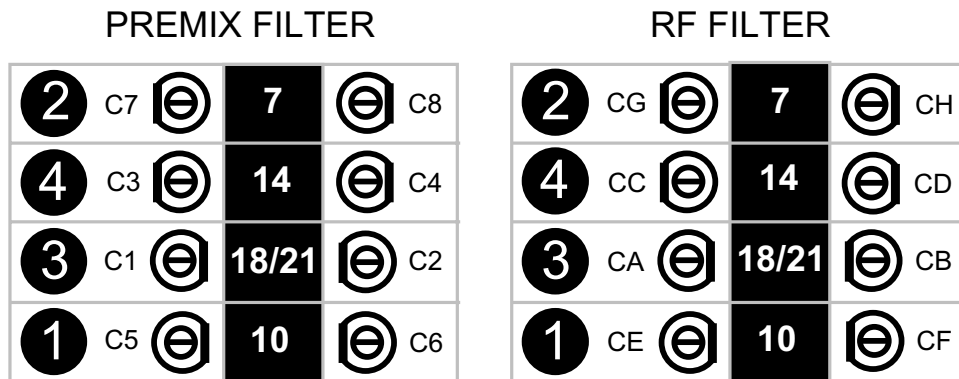

Figure 11
There are four trimmer capacitors to adjust on each band (two in the premix filter, two in the RF filter). The large circled numbers in Figure 11 show the order in which the bands will be aligned: **(1)** 10 MHz; **(2)** 7 MHz; **(3)** 18 or 21 MHz; **(4)** 14 MHz. *Note: If touch-up of the trimmer settings is ever required, always adjust the 10 MHz trimmers before the 7 MHz trimmers, since the capacitance on 7 MHz is the sum of the two. For the same reason, 18/21 MHz settings must be aligned before 14 MHz.*
Using a small flat-blade screwdriver or tuning tool, set all sixteen trimmers so that their adjustment slots are roughly perpendicular to their flat sides (see Figure 11).
- Adjust C7 and C8 (premix), then CG and CH (RF) to peak the signal on this band. (See Figure 11.)
- Adjust C1 and C2 (premix), then CA and CB (RF) to peak the signal. (See Figure 11.)
- Adjust C3 and C4 (premix), then CC and CD (RF) to peak the signal. (See Figure 11.)
Review the trimmer capacitor locations for each band (Figure 11).